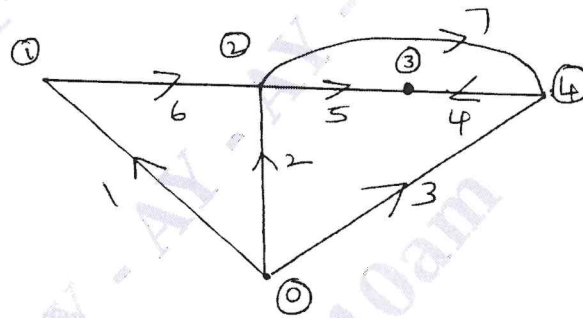

Fig Q1(b)
- b. Refer to the following oriented graph show below Fig Q1(b), build element node incidence matrix and bus incidence matrix.